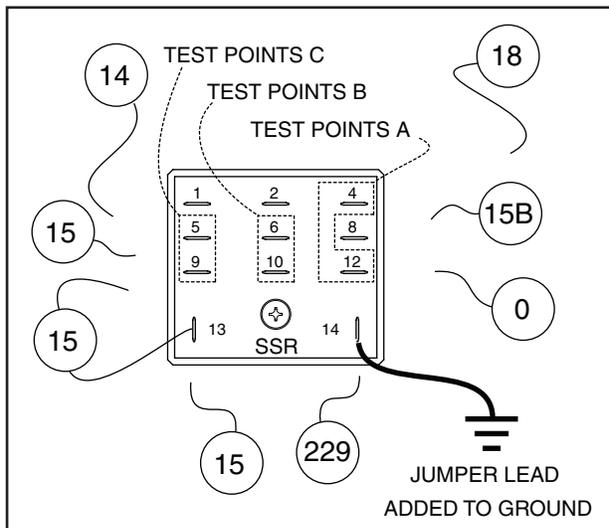

Figure 6-43. – Start Stop Relay (SSR) Energized
3. With Wire 15 reconnected to the SSR remove Wire 229 from the SSR. Connect a jumper lead from the terminal of the SSR that Wire 229 was just removed from and to frame ground. See Figure 6-43. The relay should energize closed, visually inspect it to see if it closes. If the relay energizes closed proceed to Step 4. If the relay does not energize closed replace it.
6. Remove Wire 229 from the SSR. Connect a jumper lead from the terminal of the SSR that Wire 229 was just removed from and to frame ground. The relay should energize closed. Set a voltmeter to measure resistance. Connect meter test leads across TEST POINTS A INFINITY should be measured. Connect meter test leads across TEST POINTS B continuity/closed should be measured. Connect meter test leads across TEST POINTS C continuity/closed should be measured. See Figure 6.43. If the SSR fails any test replace it.